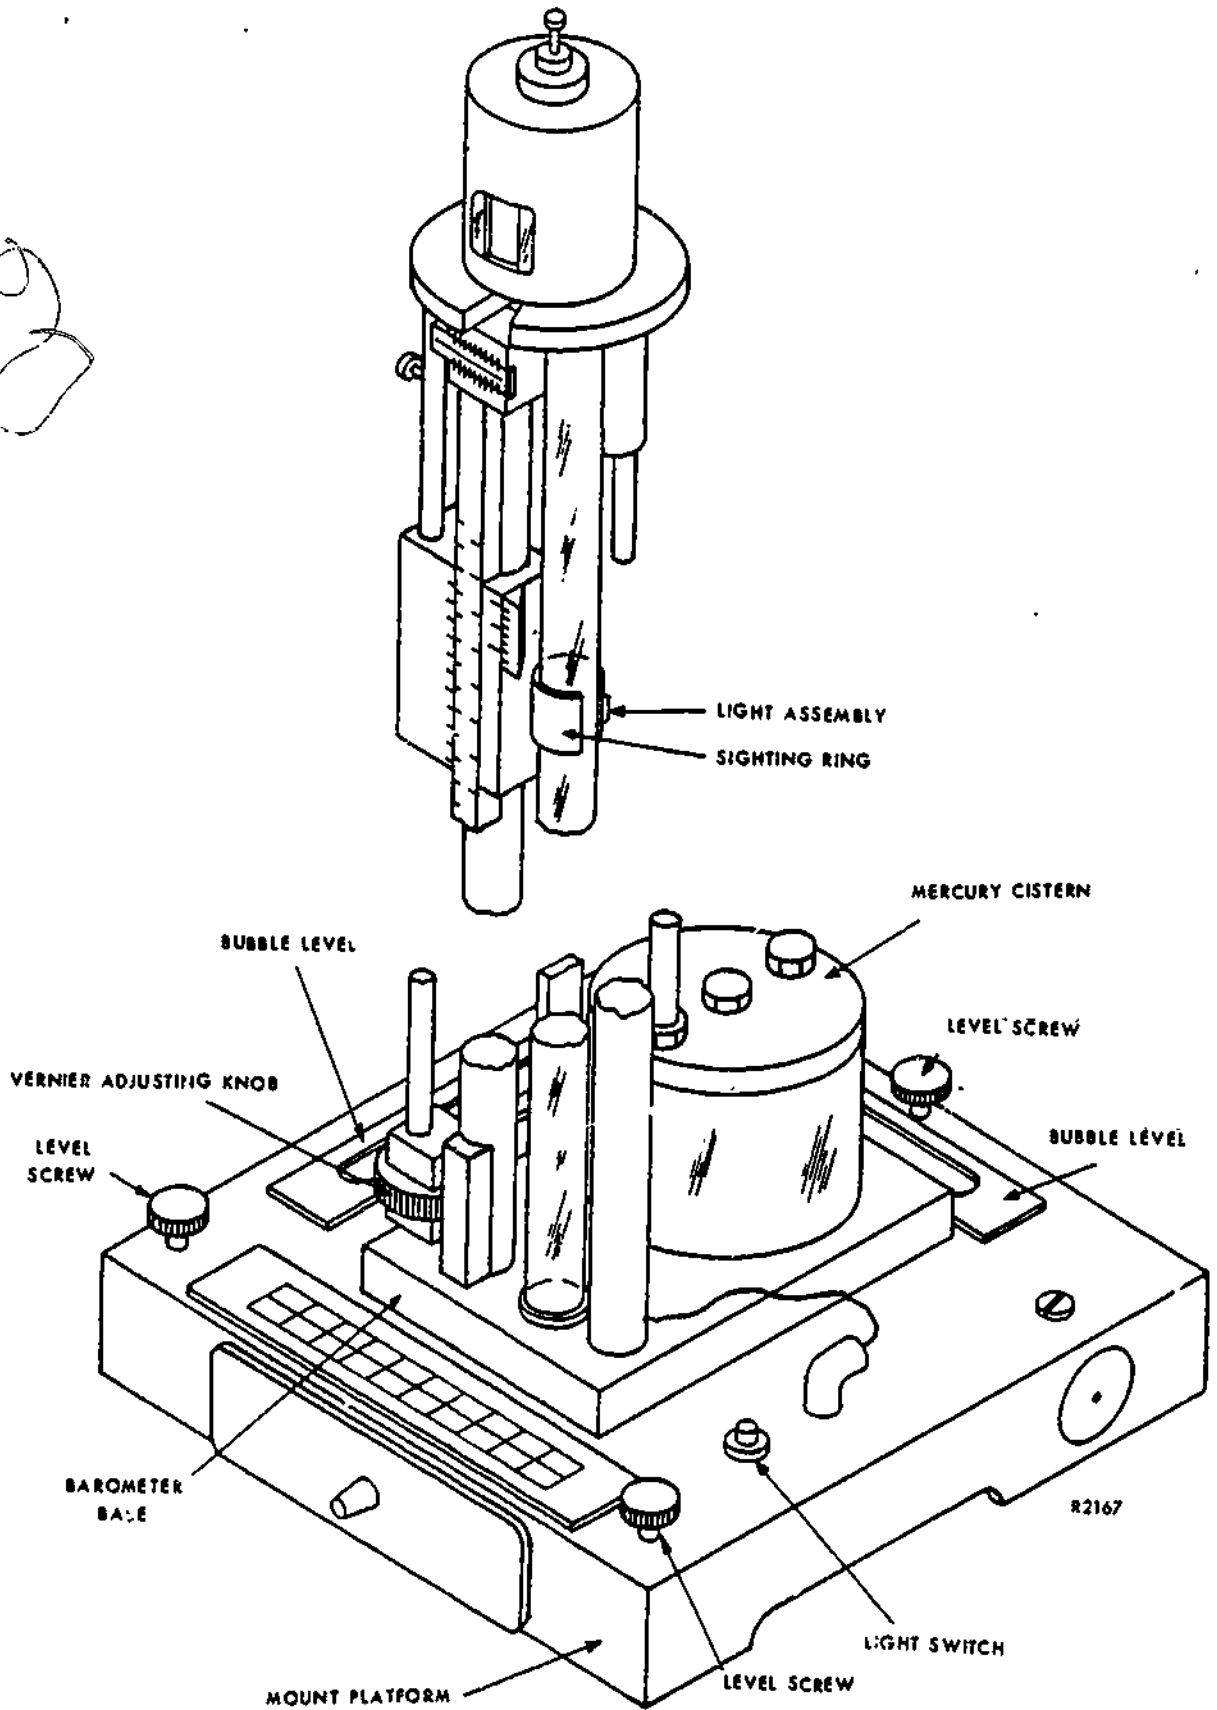

Figure 1
b. Use figure 1 and locate the leveling screws and the bubble levels on the barometer mount platform.
b. The vernier adjusting knob (figure 1) is used for fine adjustment of the altitude index to the altitude graduations.
a. The light assembly (figure 1) is used as an aid to align the sighting ring to the top of the mercury meniscus.
b. The light switch is located on the top of the barometer mount platform (reference figure 1).